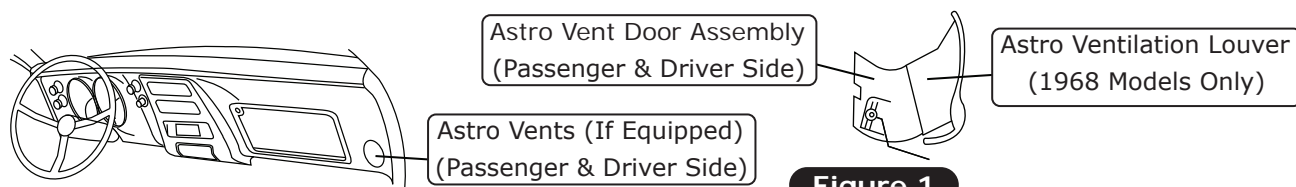

Figure 1
1. On 1968 models equipped with astro ventilation, remove the astro vents and door assemblies (retain astro vents, but discard door assemblies) (See Figure 1, below).
3. Remove the trim plate and (2) screws (retain) (See Photo 2, below). **NOTE: The center console may have to be loosened to gain access to the trim plate screws. The bottom (2) screws also retain the ashtray slider assembly (See Photo 3, below).**
5. Remove the glove box door by removing (3) screws (retain) (See Photo 4, below).
6. Remove the glove box by removing (4) screws ((2) on top & (2) on the sides) (discard) (See Photo 5, below).